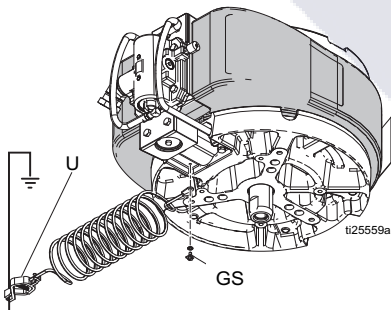

Fig. 3
XL 10000 Pumps™: See figure 3. Verify that the ground screw (GS) is attached and tightened securely to the air motor. Connect the clamp (U) of the static ground cable (H) to a true earth ground. For a ground wire and clamp, order part No. 244524.